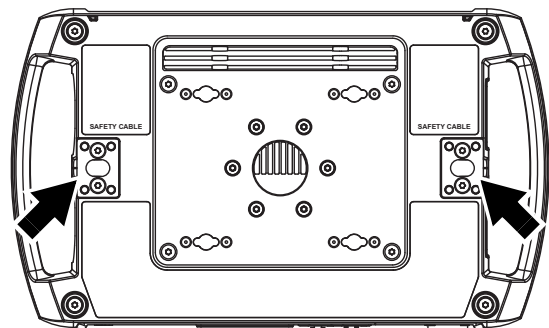

Figure 6: Safety cable attachment points
5. See Figure 6. Install a safety cable that is approved as a safety attachment for the weight of the fixture by looping it through a safety attachment point (arrowed) in the bottom of the base and around a secure anchoring point so that the safety cable will catch the fixture if a primary attachment fails. Remove as much slack as possible from the safety cable (by looping it more than once around the truss bar, for example).